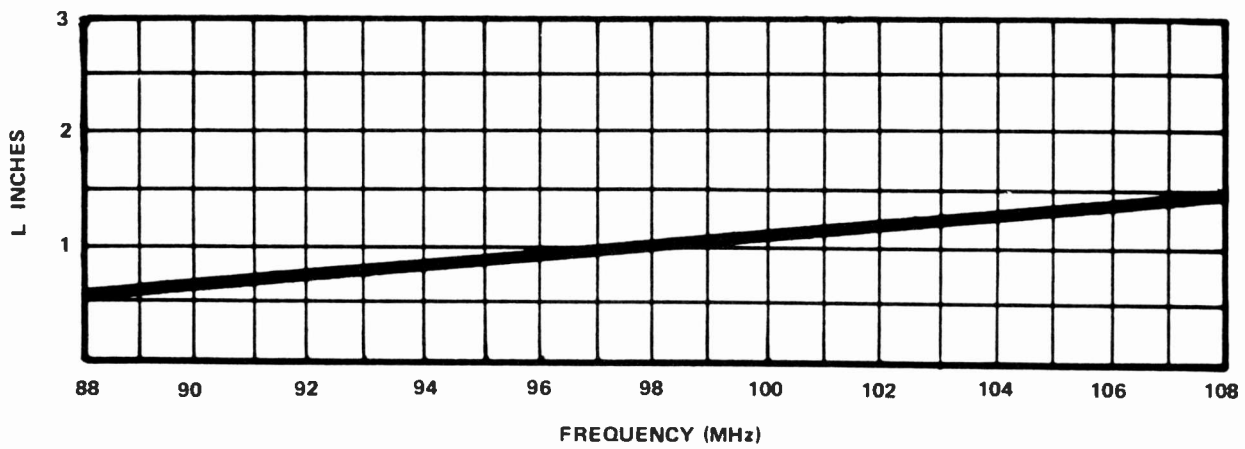

Figure 5-2. PA Neutralizing Adjustment
Adjust the PA neutralization bars to the desired frequency in accordance with the graph in Figure 5-2.
4. Refer to Figure 5-2 and adjust the screen sliders LN1 and LN2. The sliders should not require an adjustment greater than $\frac{+1}{4}$ inch from the initial setting. (A setting on the plus side is preferred.)